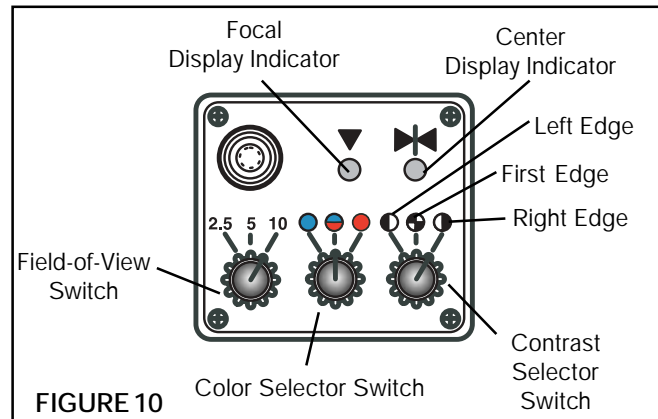

FIGURE 10
2. Center the LH100 directly over the line or web edge and adjust the vertical distance of the LH100 to the web surface until the Focal Display indicator turns on (See Figures 10 and 11). For highly reflective webs, be sure the Diffuser Cap is installed and positioned about 1 mm [0.04 in] above the web for proper focus (See Figure 4).
Center Display indicator turns on and indicates the center of the field of view is aligned with the appropriate line, pattern or web edge (See Figures 10 and 11).